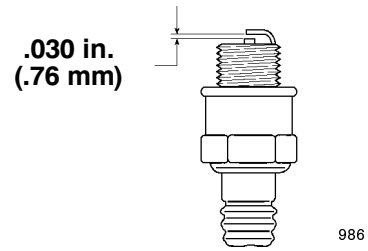

Figure 24
4. Set the gap on the new plug to 0.030 in. (0.76 mm) (Fig. 24).